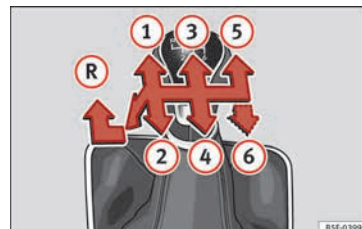

Fig. 53 Gear shift pattern of a 5 or 6-speed manual gearbox
The position of the gears is indicated on the gearbox lever » **Fig. 53.**
- With the gearbox lever in neutral, push it upwards, move it to the left as far as it will go and then forwards to select reverse » **Fig. 53** **R**.